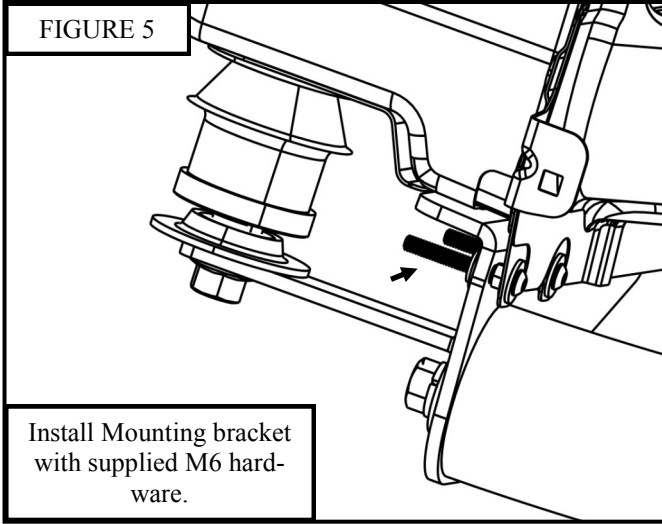

FIGURE 5
5. Loosely install Front Mounting Bracket to the rocker panel with supplied M6 hardware by placing the bracket flush with factory welded nuts, see Front Assembly and Figure 5. (Note: Do not remove factory welded nuts.)
7. Remove the factory bolt from the front rubber body mount and replace it with a M14 hex screw. Loosely install Front Support Strap to body mount using M14 hex screw, see Figure 5,6, and Front Assembly. Note: The supplied round spacer (Item 25) must go in-between the front support strap (Item 7) and the factory metal mounting cup. See Front Assembly.